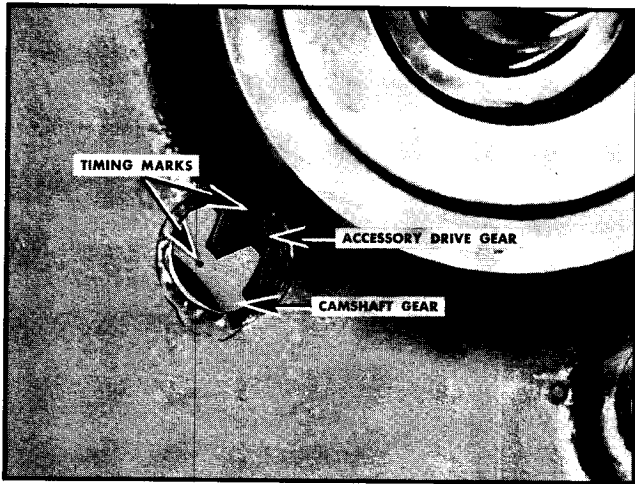

Fig. 12-33. Timing fuel pump drive gear to camshaft gear
3. Align center punch mark on camshaft timing gear with the punch mark on fuel pump drive gear. Fig. 12-33.